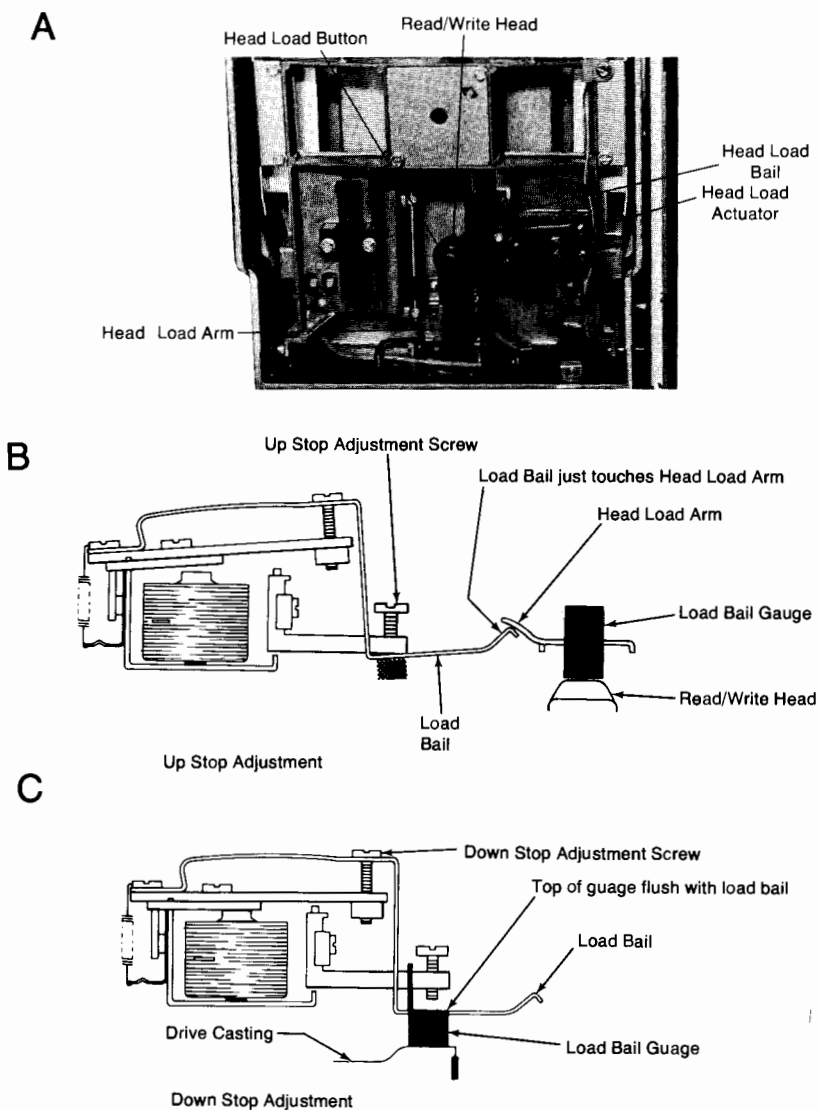

Figure 3-12. Head Load Stop Adjustments
2. Place the head load tool on the drive casting (see Figure 3-12).